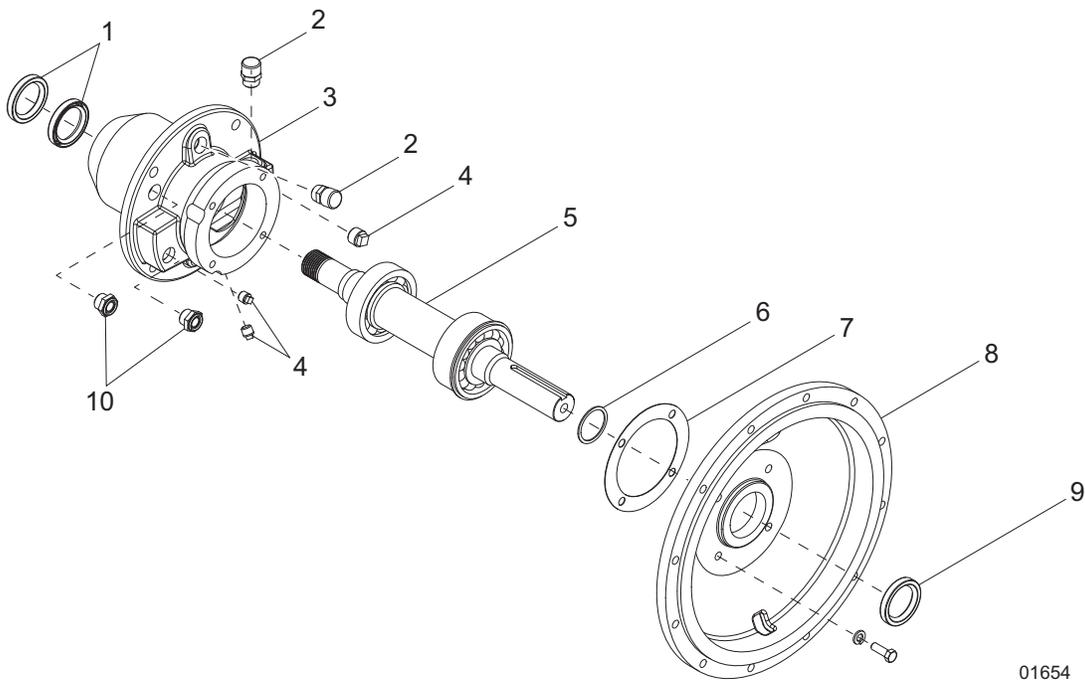

Figure 23 - Bearing Frame Assembly
7. Refer to Figure 23 for installation of the breathers, plugs and sight gauges.